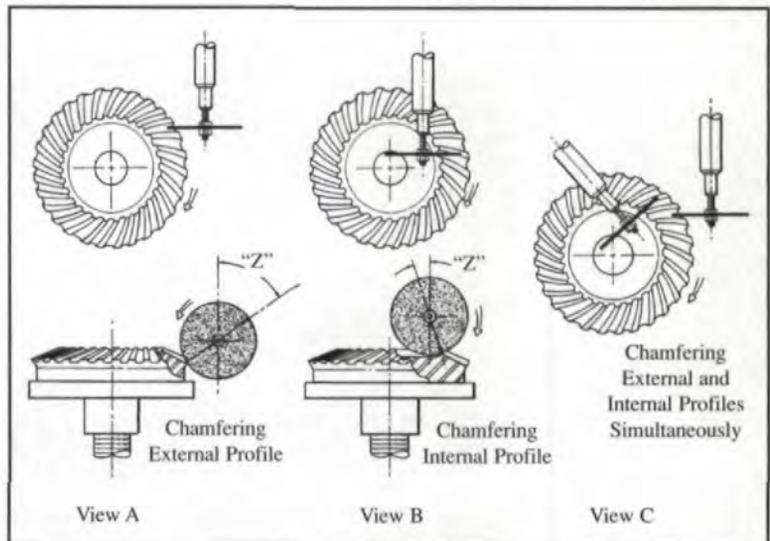

Fig. 9 — Spiral bevel gear setup.
- Instead of aligning the grinding wheel with the centerline of the gear, it should be positioned on the gear tooth root that is closest to being parallel to the grinding wheel (see Fig. 9, View A).
- The pivot angle “Z” should be approximately 15° from the gear face being chamfered (see Fig. 9, View B).
heads (see Fig. 9, View C).